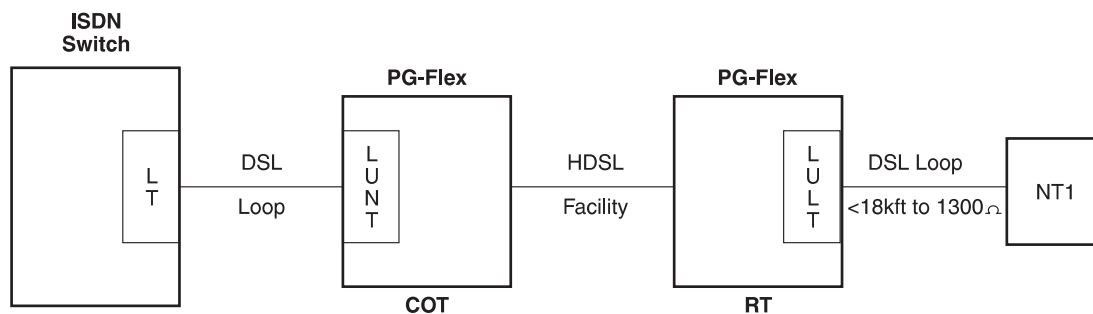

Figure 2. Typical ISDN Configuration
- 4.1** ISDN is a networking standard that provides end-to-end, simultaneous handling of digitized voice and data traffic on the same link. Figure 2 shows a typical ISDN configuration. The FRC-756 (LULT) extends the ISDN connection from the RT to the subscriber network termination (NT1) device. The Digital Subscriber Line (DSL) loop is a non-loaded twisted pair up to 18 kft with mixed gauges. The total resistance limitation is 1300 Ω . Bridged taps greater than 6 kft are not allowed.
- 7.5.1 Outgoing calls.** Verify outgoing calls for both B channel (i.e., calls from the NT1 to the LT per Figure 2):
- 7.5.2 Incoming calls.** Verify incoming calls for both B channels (i.e., calls from the LT to the NT1 per Figure 2):